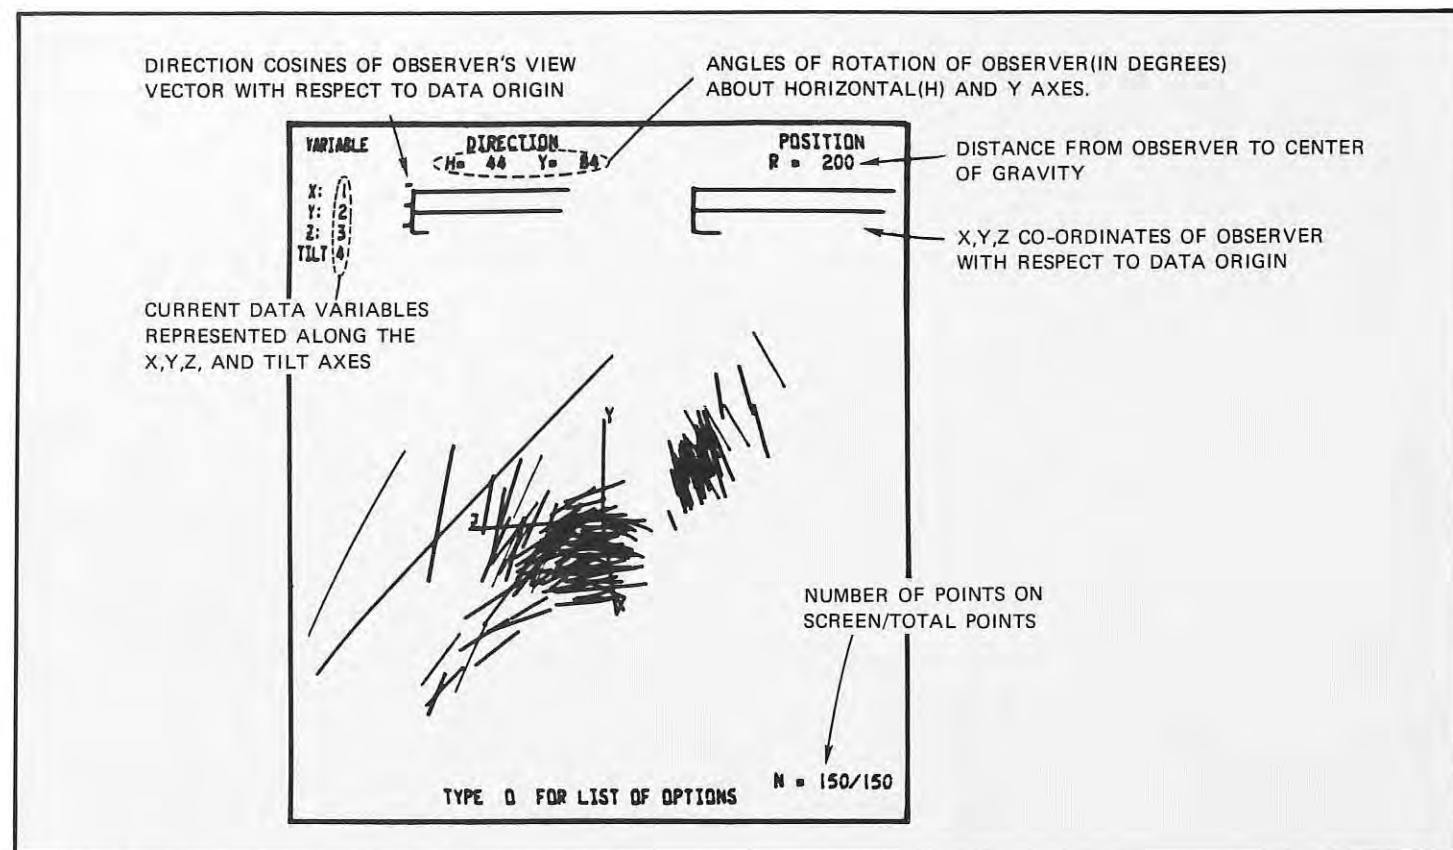

FIGURE 2: Relative transmission vs. wavelength
We have also developed pseudo three- and four-dimensional plots so that fairly direct viewing of subsets of the data can be achieved (see Fig. 2 and later explanation). Perspective views from any position in the viewer's three-space can be obtained by typing in suitable commands at the keyboard. Approximately 40 different run-time commands that are in some cases associated with parameter value changes can be given to control this subsystem.
As an example, we describe the processing of data that consists of 150 samples, of four variables each. The measurements, which were first reported by E. Anderson (3), were used by R. A. Fisher (4) in his first paper on discriminant analysis. The data are size measurements on various species of Iris. Each of the 150 Irises was measured and classified by a botanist. This example has been used to test and evaluate the system, and our results were compared with those previously reported (5). In Fig. 2, each data point is represented by a metroglyph\* that represents four variables. The length of line is proportional to the third variable, and the tilt of the line is proportional to the fourth variable. Using the four-dimensional plot, we can "fly" around (in a three-dimensional subspace of the four-dimensional data space), viewing all four variables of all the data. Note that one cluster of data points (Setosa) is distinctly separated from the other data (Versicolor and Virginica). This clustering is also evident in the other figures that all relate to the same data set.